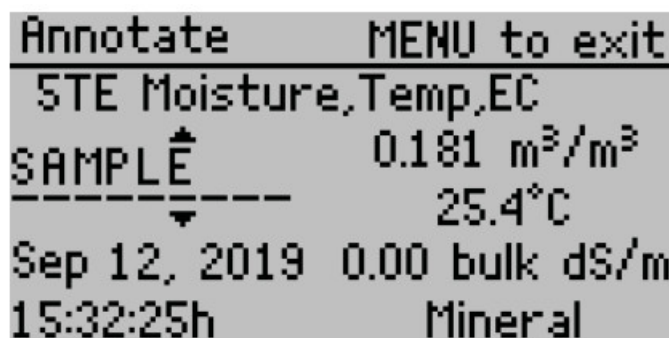

Figure 6 Annotate a saved reading
1. Press **SAVE** to show the Annotate screen ( **Figure 6**).